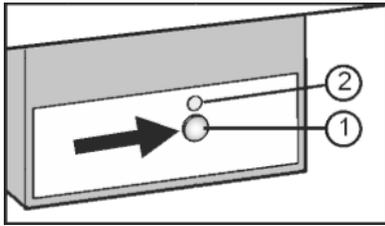

Fig. 19
- ▶ Press the On/Off button *Fig. 19 (1)* so that the LED *Fig. 19 (2)* shines.